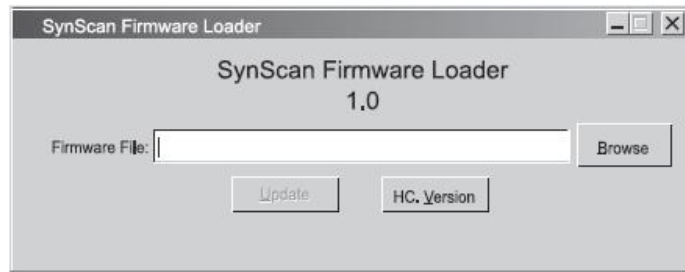

Fig. 50
6. Run the **SynScanFirmwareLoader.exe** software on your PC. Once the program is launched, you should see a window as shown in **Fig. 50**. The “HC. Version” button provides the version number of the hardware, firmware and database of your hand control. It is for your reference only and not required for the update.